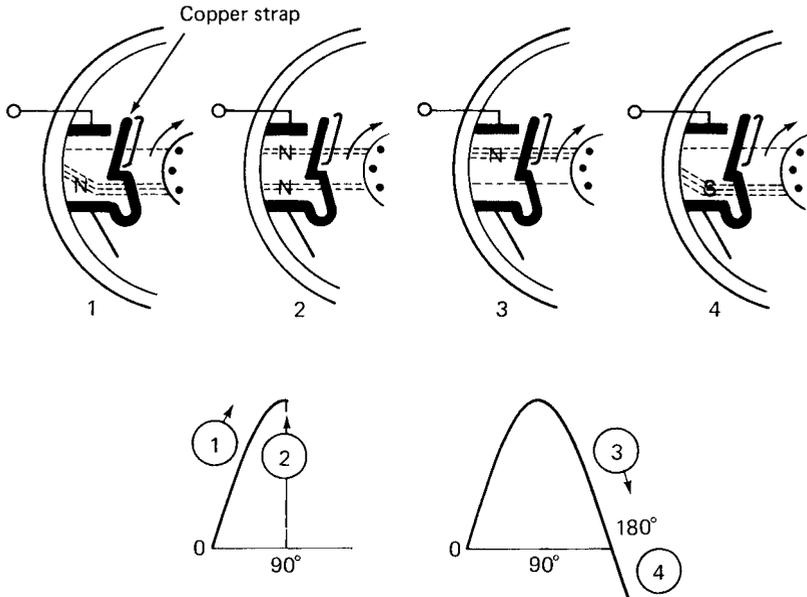

Figure 12-6 Shaded poles used in shaded-pole ac motors.
Portions of the pole piece surfaces are surrounded by a copper strap called a shading coil. The strap causes the field to move back and forth across the face of the pole piece. In Fig. 12-6, a numbered sequence and points on the magnetization curve are shown. As the alternating stator field starts increasing from zero (1), the lines of force expand across the face of the pole piece and cut through the strap. A voltage is induced in the strap. The current that results generates a field that opposes the cutting action (and decreases the strength) of the main field. This action causes certain actions: As the field increases from zero to a maximum of 90°, a large portion of the magnetic lines of force is concentrated in the unshaded portion of the pole (1). At 90° the field reaches its maximum value. Since the lines of force have stopped expanding, no emf is induced in the strap, and no opposite